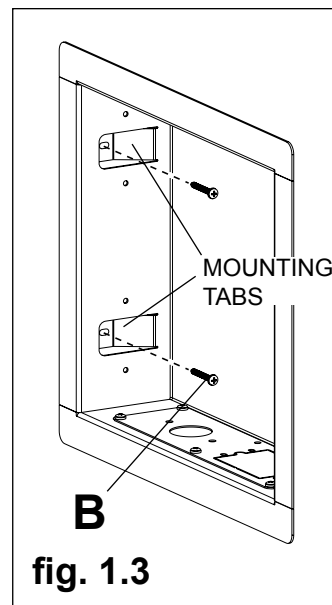

fig. 1.3
Level in-wall box (A), and mark the position of two mounting holes using holes on mounting tabs. Remove in-wall box (A) and drill 1/8" (3 mm) dia. holes 1-1/2" (38 mm) deep using the locations previously marked. Reinstall and level in-wall box (A). Secure using two #10 X 1-1/2" wood screws (B) as shown in figure 1.3.